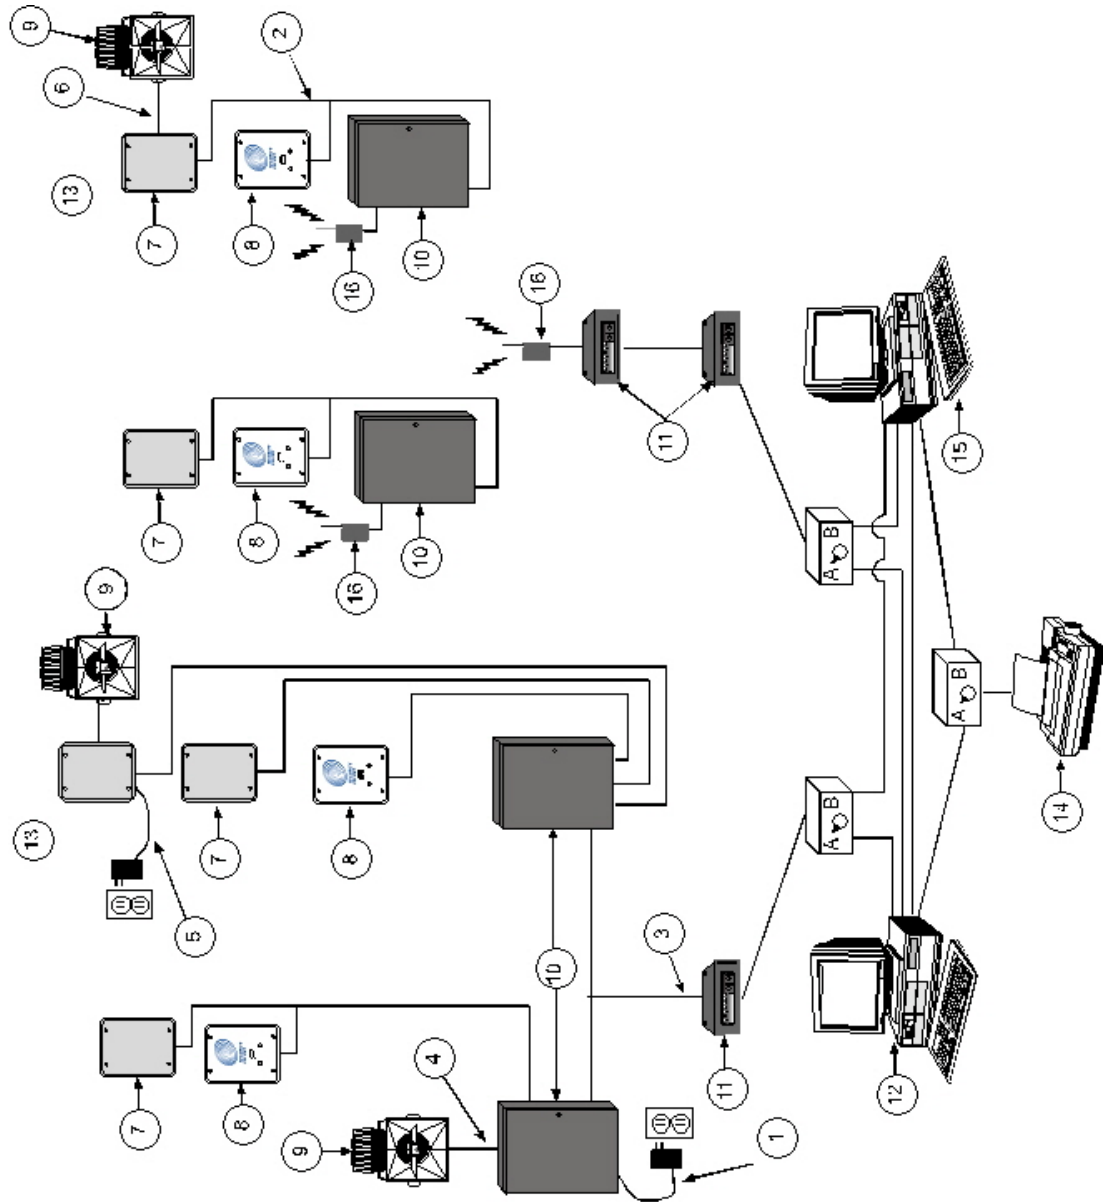
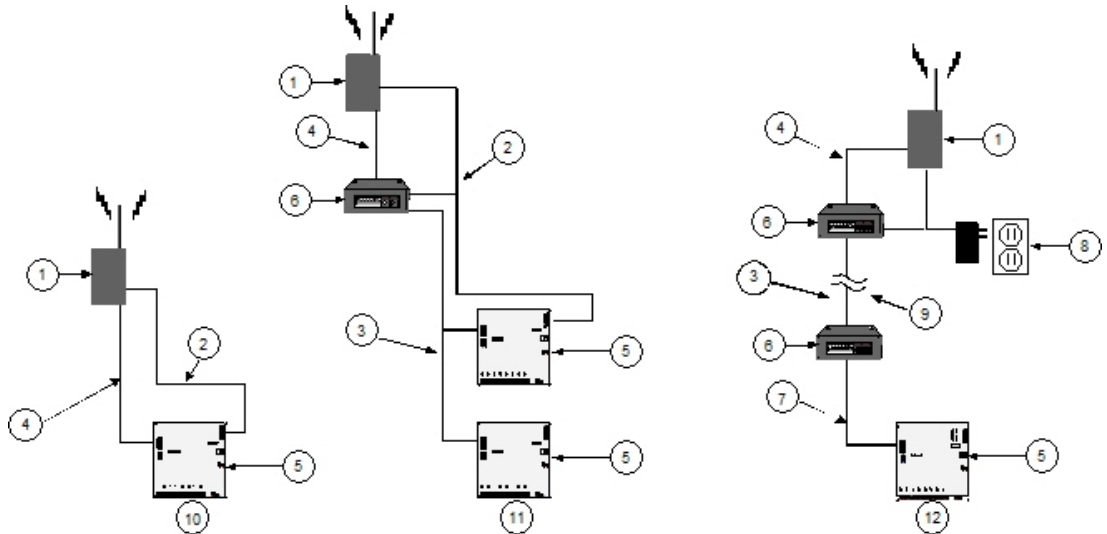
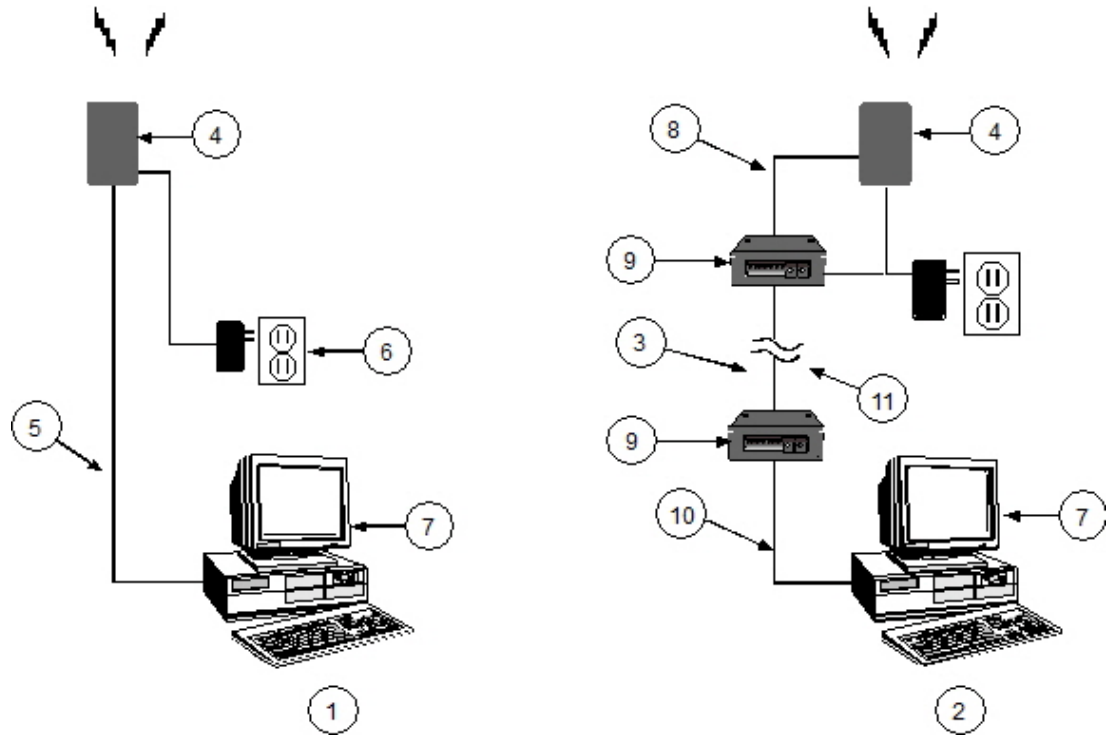

Figure 4.1: General Wiring Diagram
Figure 4.2: Transponder to ProxLink Wiring
Figure 4.3: ProxLink to Central Console
* See the corresponding numbers in Figure 4.1, Figure 4.2, and Figure 4.3.